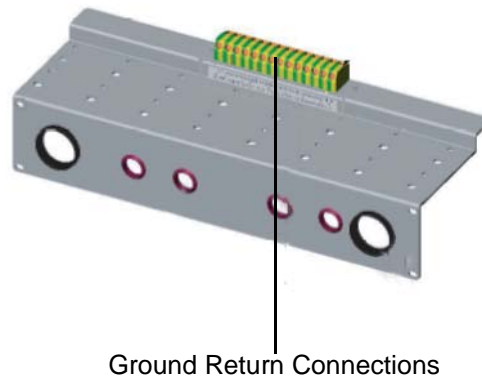

Figure 3-3 Return Bus connection
4.	Insert fourteen individual black power cables into front of yellow and green ground connections as shown in Figure 3-3 and tighten screws